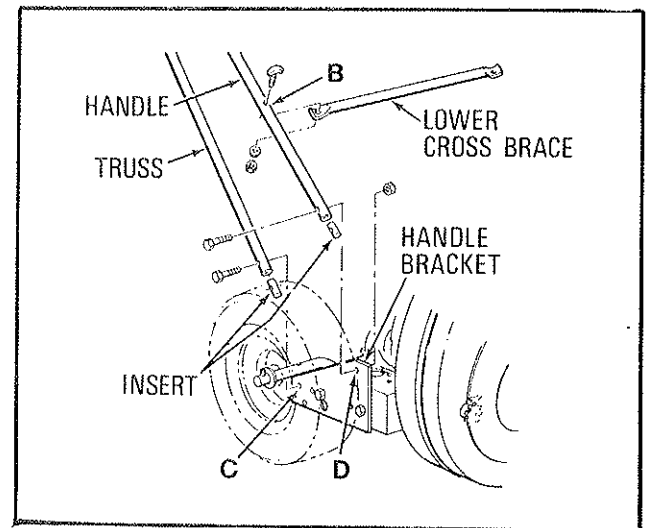

Figure 2. Assembly to Frame
**C.** Assemble the two trusses to bottom holes of the right and left handle and axle brackets, using 5/16-18 x 1-1/2 bolts, 5/16-18 lock hex nuts. Make sure a steel insert is in the end of each truss as shown when attached at point "C" Fig. 2. **DO NOT TIGHTEN.**
**D.** Assemble the two handles to top holes of the right and left handle and axle brackets using 5/16-18 x 1-1/2 bolts, 5/16-18 lock hex nuts. Make sure a steel insert is in the end of each handle as shown when attached at point "D" Fig. 2. **DO NOT TIGHTEN.**